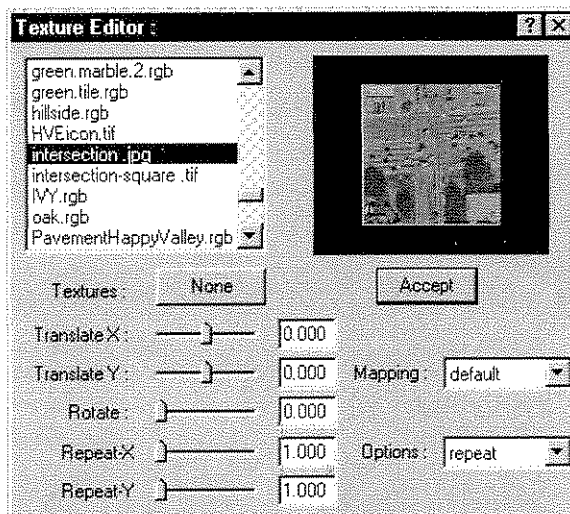

Figure 3 - Material Texture Editor dialog displaying the selected image to be applied to the surface.
4. After completing your surface and preparing it for editing, choose 3D Edit, Material Texture from the menu. This will display the Material Texture Editor dialog. Choose your image from the list of textures on the left hand side of the Material Texture dialog as shown in Figure 3.